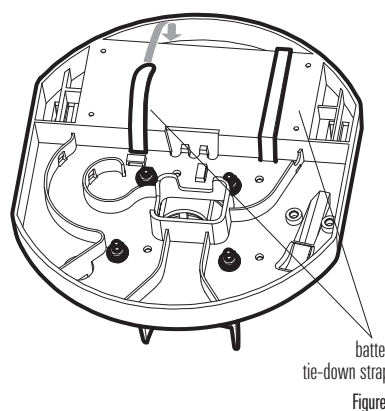

Figure 7
1. Turn the base upside down, then thread the two included hook and loop battery tie-down straps from the bottom of the base up through each side of the battery well, using the strap holes (see Figure 7).